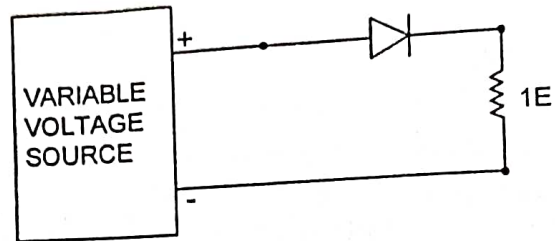

Fig.2 Forward characteristics
- Set-up the circuit as in Fig. 2 (See layout diagram)